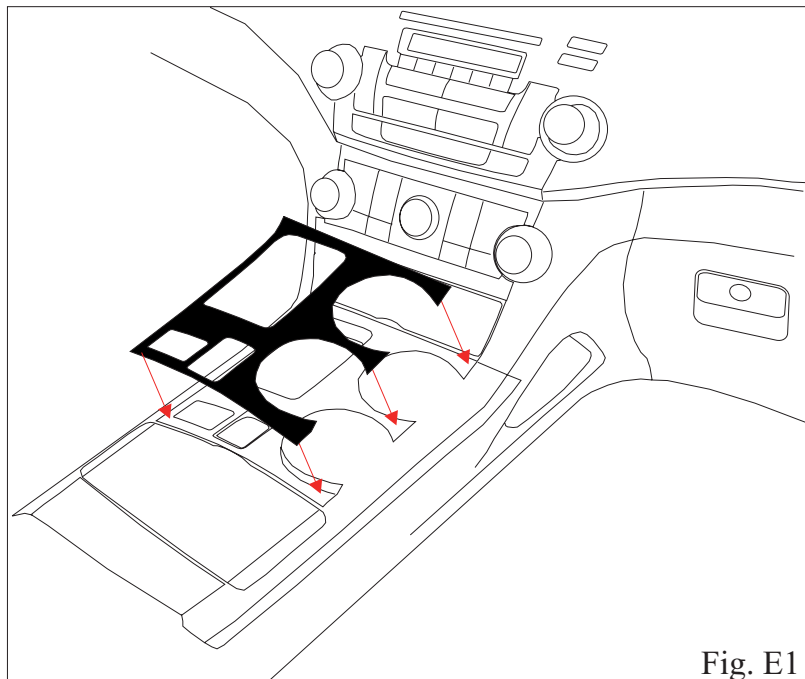

Fig. E1
- ➔ A. Align part uniformly to edge of factory components. Edge of appliqué should be flush to edge of factory component,  $\pm 1.0\text{mm}$ . (Fig. E1).